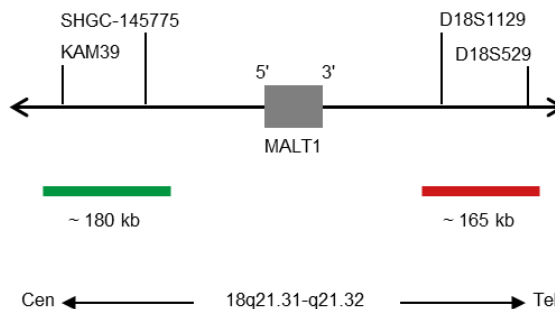

Fig. 1: SPEC MALT1 Probe map (not to scale)
- Digoxigenin-labeled polynucleotides (~0.50 ng/ μ l), which target sequences mapping in 18q21.31-q21.32* (chr18:56,021,766-56,202,885) proximal to the MALT1 breakpoint region (see Fig. 1).
- Dinitrophenyl-labeled polynucleotides (~0.75 ng/ μ l), which target sequences mapping in 18q21.32* (chr18:56,557,814-56,724,408) distal to the MALT1 breakpoint region (see Fig. 1).